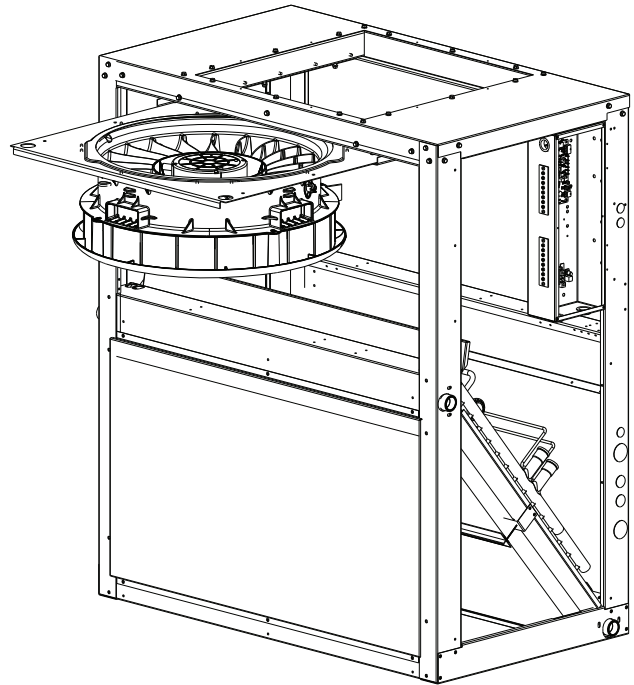

Fig. 32 — Slide Out Fan Deck Assembly
5. Slide fan deck assembly out of the panel opening that is being used. Side panel access will not be allowed. See Fig. 32.